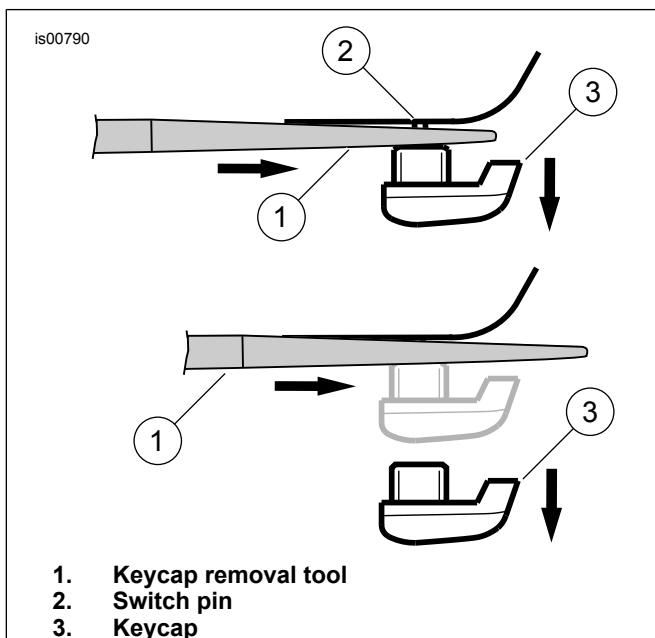

Figure 7. Lower Switch Housing Keycap Removal
6. Remove the mode select keycap (3) using the long end of the keycap removal tool (5). Insert the tool under the keycap and push tool outward until keycap is disengaged from the switch pin (Figure 7, item 2).
5. Remove the audio control keycap (3) using the long end (5) of the keycap removal tool (Figure 7, item 1). Insert the tool under the keycap and push tool out until keycap is disengaged from the switch pin (2).